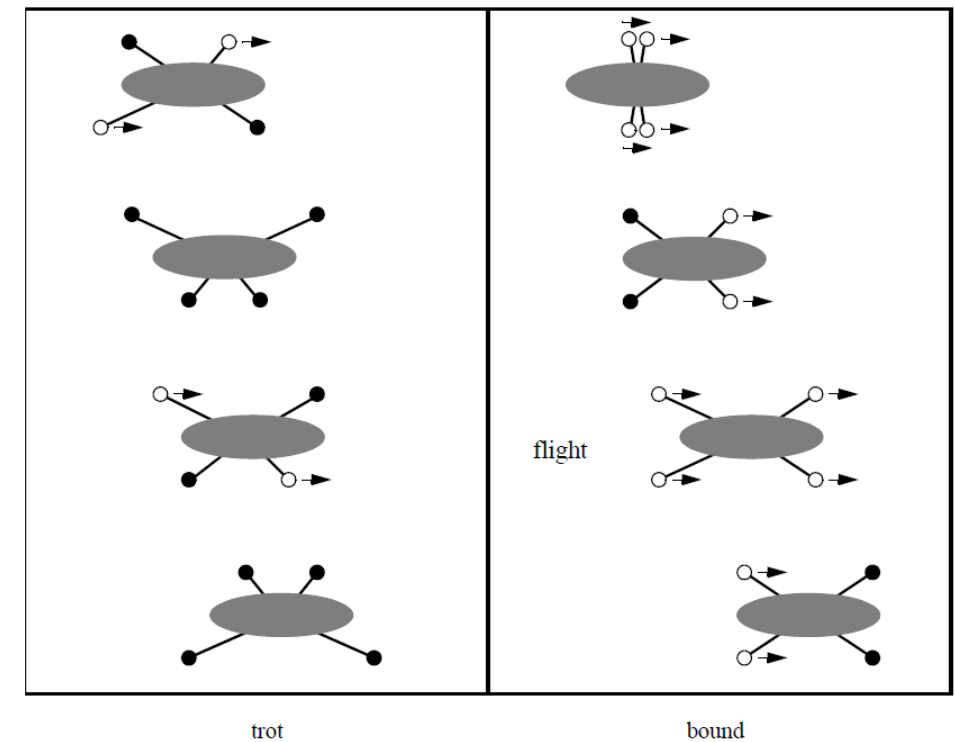

Figure 2.8
- (b) Specify two different statically stable walking gaits using the notation of figure 2.8.